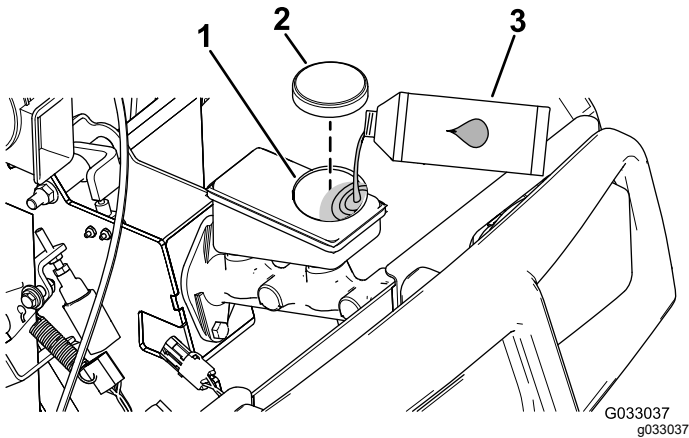

Figure 64
4. Raise the hood to access to the master brake cylinder and reservoir (Figure 64).
- A. Clean the area around the reservoir cap and remove the cap (Figure 64).
- C. Install the reservoir cap (Figure 64).